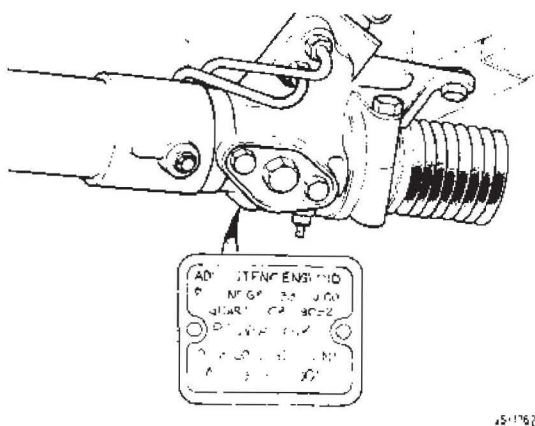

FIG 1
**Note:** Energised pinion seals should only be fitted to steering racks with plated pinion bores. Plated bore racks were fitted from VIN 597940. The plated racks are also identified by the part number stamped on the plate on the underside of the rack (Fig. 1). Part No. CBC 9052 – Right-hand drive vehicles. Part No. CBC 9053 – Left-hand drive vehicles. Energised seals were introduced from Part No. CCC 5650, XJ6 and Part No. CCC 5660, XJS.